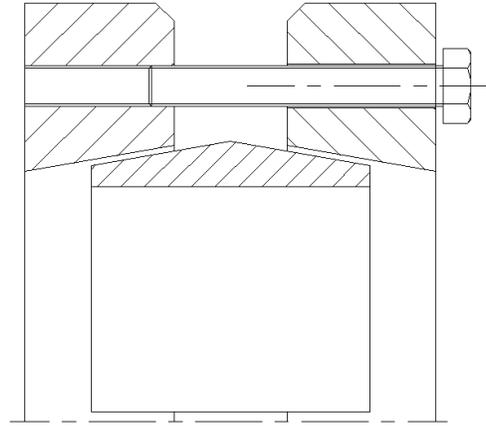

Figure 2
2. Loosen – BUT DO NOT REMOVE – all locking screws gradually and sequentially in a circular pattern using quarter turns for each screw (see Figure 2). The outer thrust collars will back off the tapers and the C600 will return to its original clearance fit dimensions, thereby relaxing the coupling connection on the shafts.